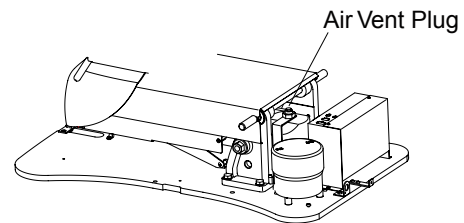

Fig 4-2-6
10) Locate the red warning tag which is attached by a string to the rubber air vent plug in the pump reservoir. See Fig 4-2-6.